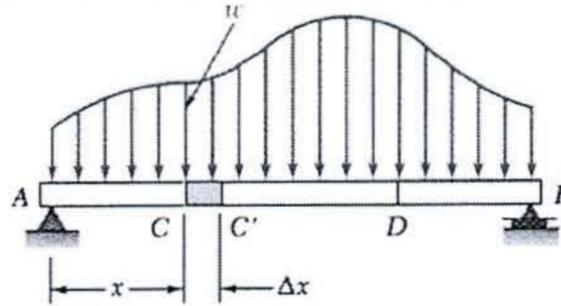

Figure Q6c Beam under loading
- (c) Refer to Figure Q6c below, use the differential method to derive the relationship between:
i. The shear force (V) and the intensity (w). [5]